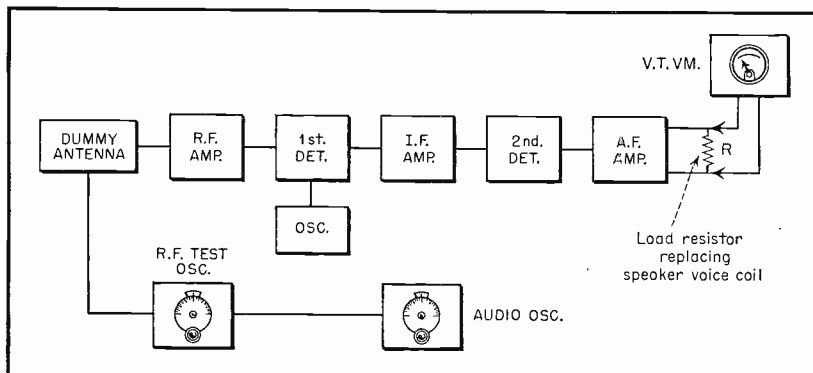

Fig. 8.
9. **Overall Fidelity.** Use the arrangement shown in Figure 8. Set the audio oscillator to 1000 cycles. Tune